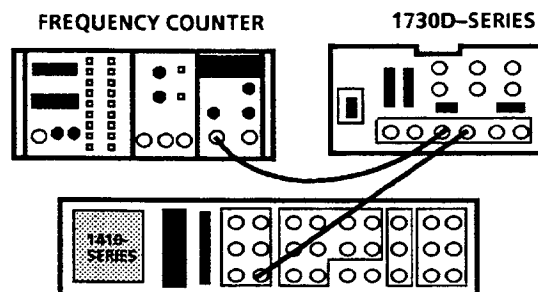

Figure 7-6: Equipment hook-up to adjust 0.2 s timing
- b. Loop-through connect the Multiburst signal to the CH-2 ANALOG INPUT of the 1730D and the frequency counter. See Figure 7-6.